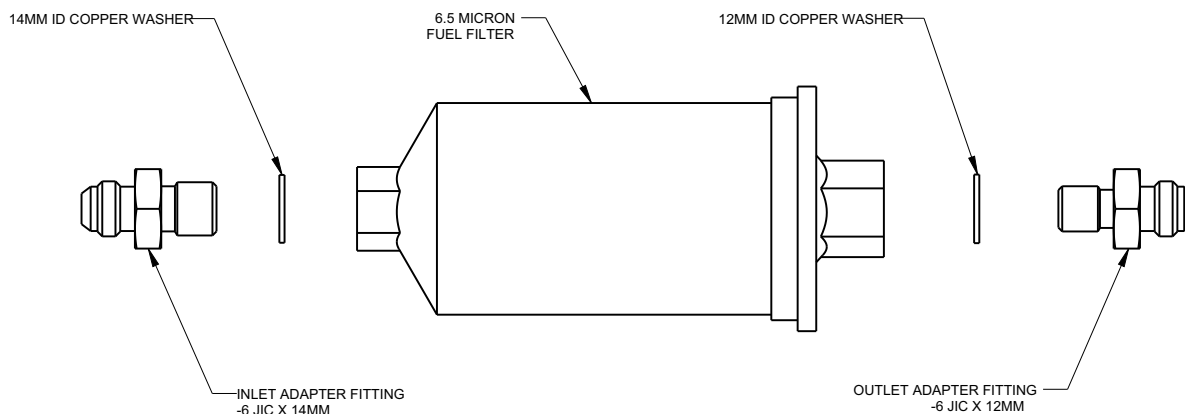

FIGURE 10-25
11. Use two 3/4 wrenches to remove the inlet adapter fitting from the old filter. Discard the 14mm washer. See Figure 10-25.
1. Place a new 14mm ID copper washer, that came with the new filter, on the 14mm adapter fitting. Thread it into the new 6.5 MICRON FUEL FILTER. Torque to 260-280 in-lbs using two 3/4 wrenches. See Figure 10-25.